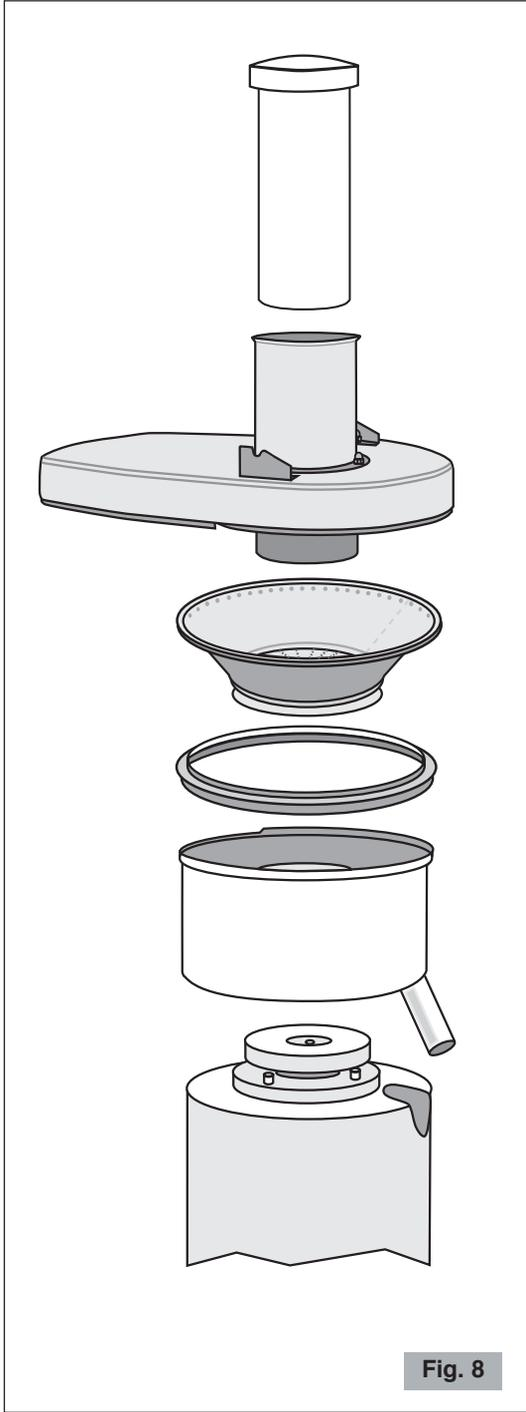
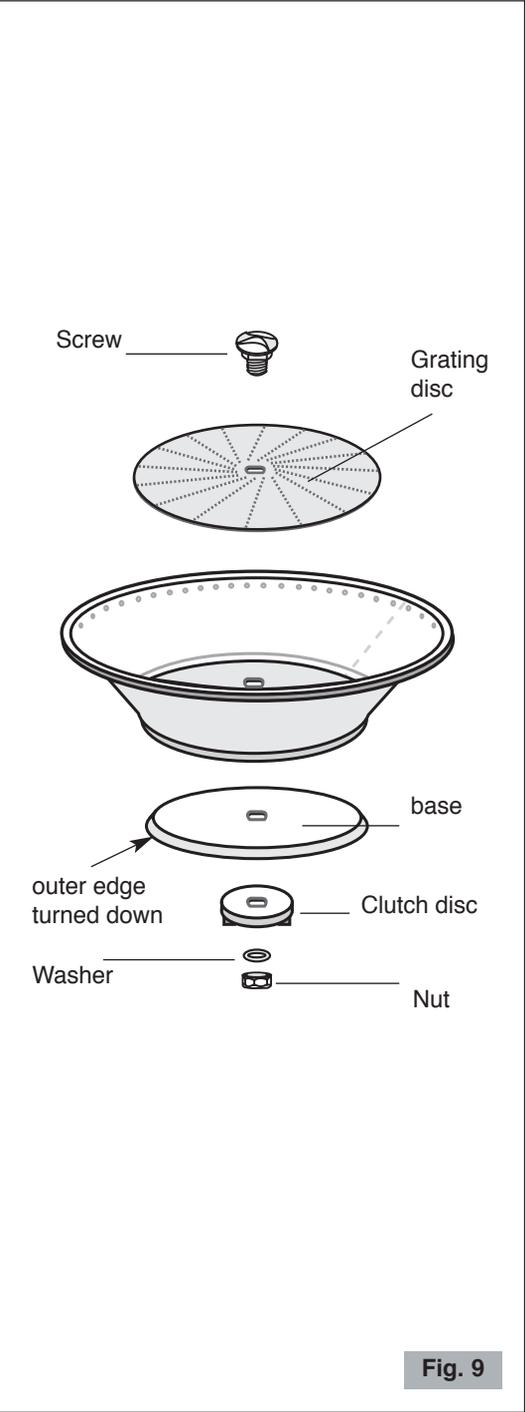

Fig. 8
Fig. 9
To disassemble these components, unhook the locking arm and remove in this order; food pusher, juicer cover, basket, pulp retainer, and bowl (Fig. 8, Fig. 9). Reassemble in the reverse order taking care to place the juice spout in the appropriate slot of the motor housing, place the pulp retainer correctly, place the basket in the bowl, making sure that the basket's clutch disc is correctly inserted on the drive disc and position the juicer cover on the bowl.
For a **periodic deep-cleaning** you can disassemble the parts of the basket by unscrewing the nut under the basket (Fig. 9).
**To disassemble the parts of the basket**, hold the basket still with one hand and unscrew the nut with a pipe wrench number 13 (Fig. 9). Pull the screw out of the basket. Wash all of the parts in warm water with dish soap, removing any residues with the brush. Reassemble in reverse order (Fig. 9) and make sure that the base of the basket is mounted with the outer edge turned down. **To reassemble the parts of the basket** tighten the screw to the nut with a pipe wrench number 13. Ensure that the parts are tightly attached to one another.